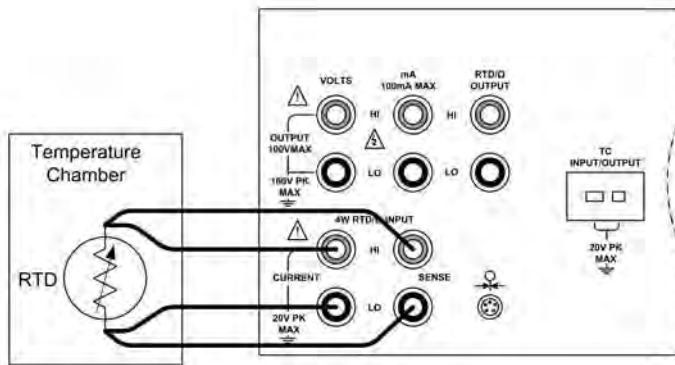

Figure 23 - RTD Test Application
3. Connect the RTD as shown in figure 23.